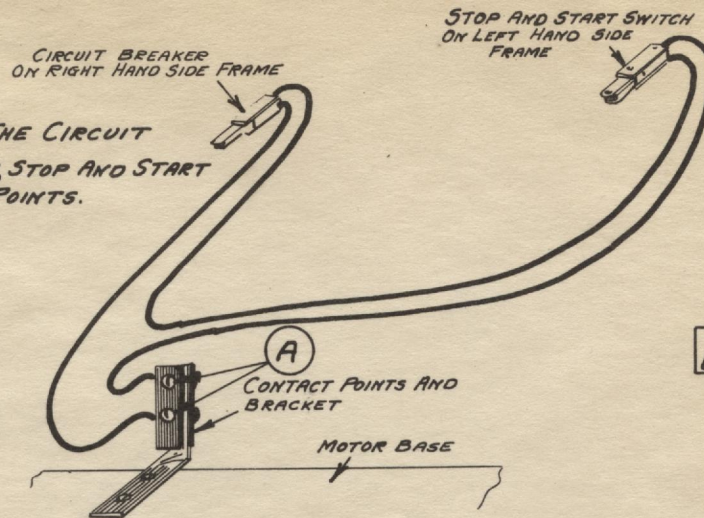

FIG. 1
- 420 FIG. 1 IS A DIAGRAM OF THE CIRCUIT BETWEEN CIRCUIT BREAKER, STOP AND START SWITCH AND THE CONTACT POINTS.